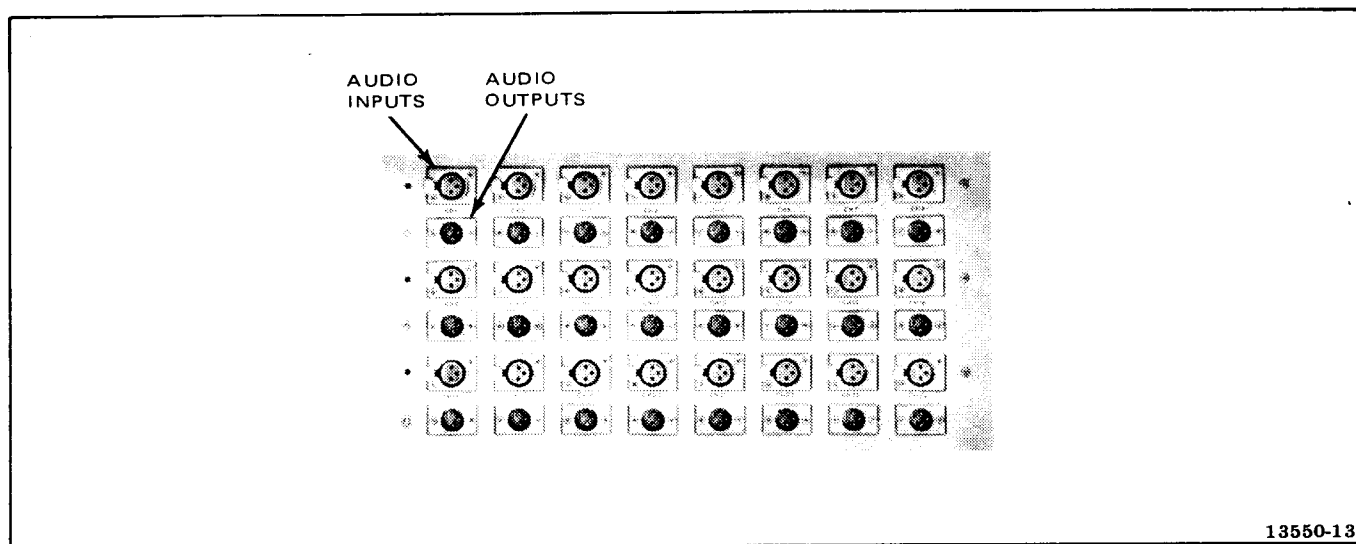
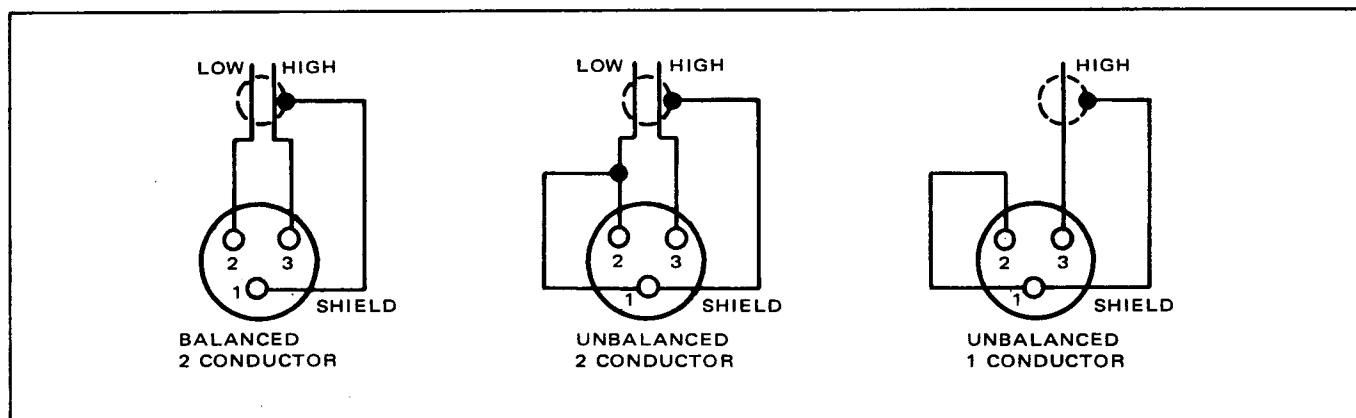

Figure 2-1. Input/Output Connector Panel
Figure 2-2. Input/Output Cable Wiring
Audio signals are connected to and from the MM-1200 by rear panel connectors shown in Figure 2-1. The connectors are three-conductor XLR type. Female connectors are used for the input signals and male connectors are used for the output signals. The mating plugs are user-supplied, XLR type, and should be used with shielded-pair audio cable to provide input and output connections. Wire the mating plugs as shown in Figure 2-2 according to the required usage.
1. Ensure that the unbalanced line input male connector has been prepared as in Figure 2-2.
2-10. Balanced Output. Wire the external output cable as shown in Figure 2-2 for the balanced configuration, and connect the cable connector at the output connector for each channel of use.
2-11. Unbalanced Output. Wire the external output cable connector as shown in Figure 2-2 for the appropriate unbalanced configuration, and connect the cable connector to the output connector for each channel of use.